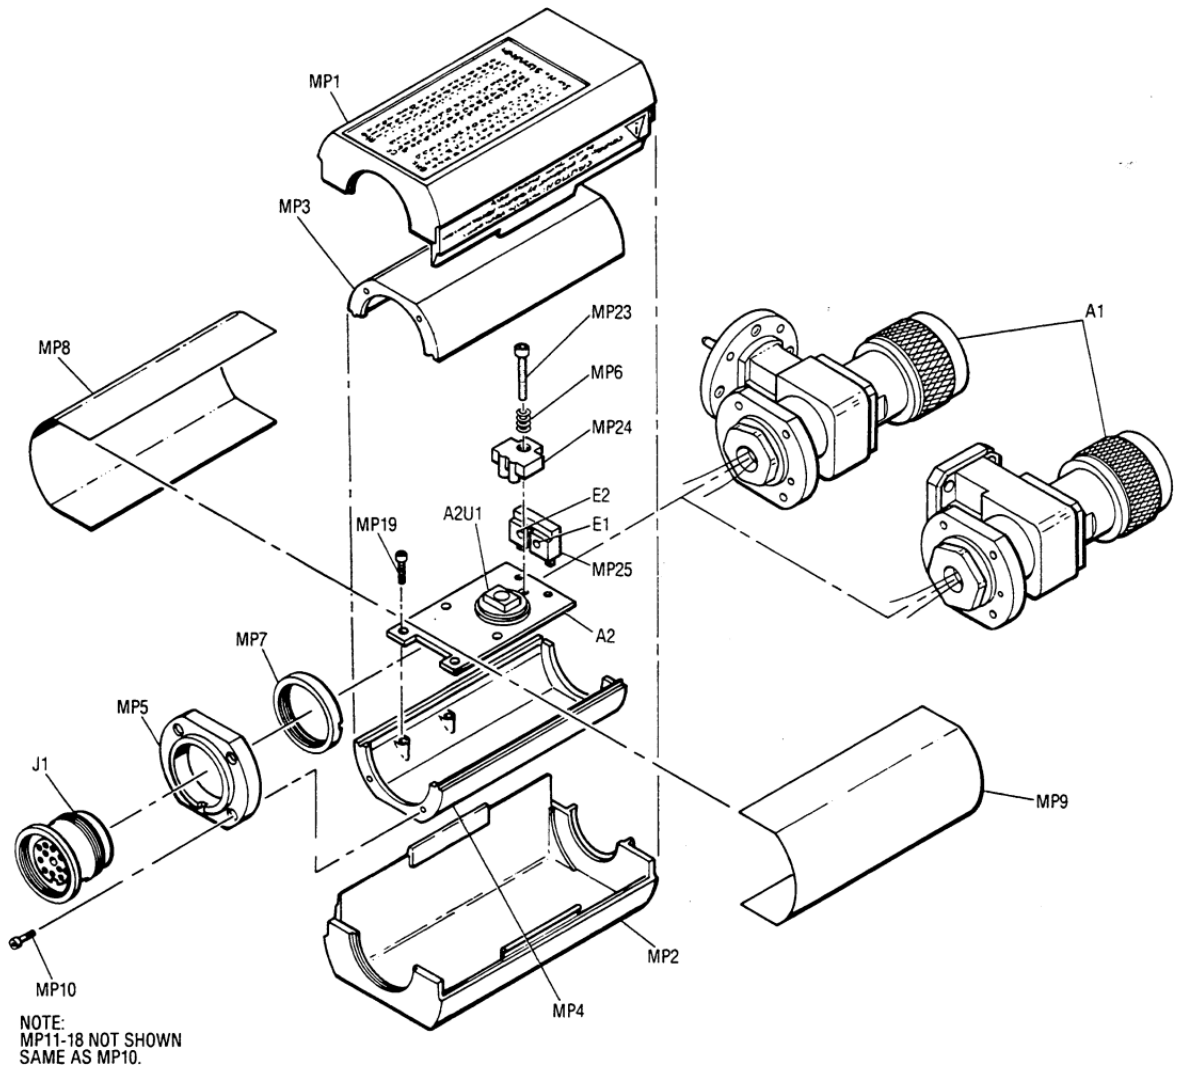
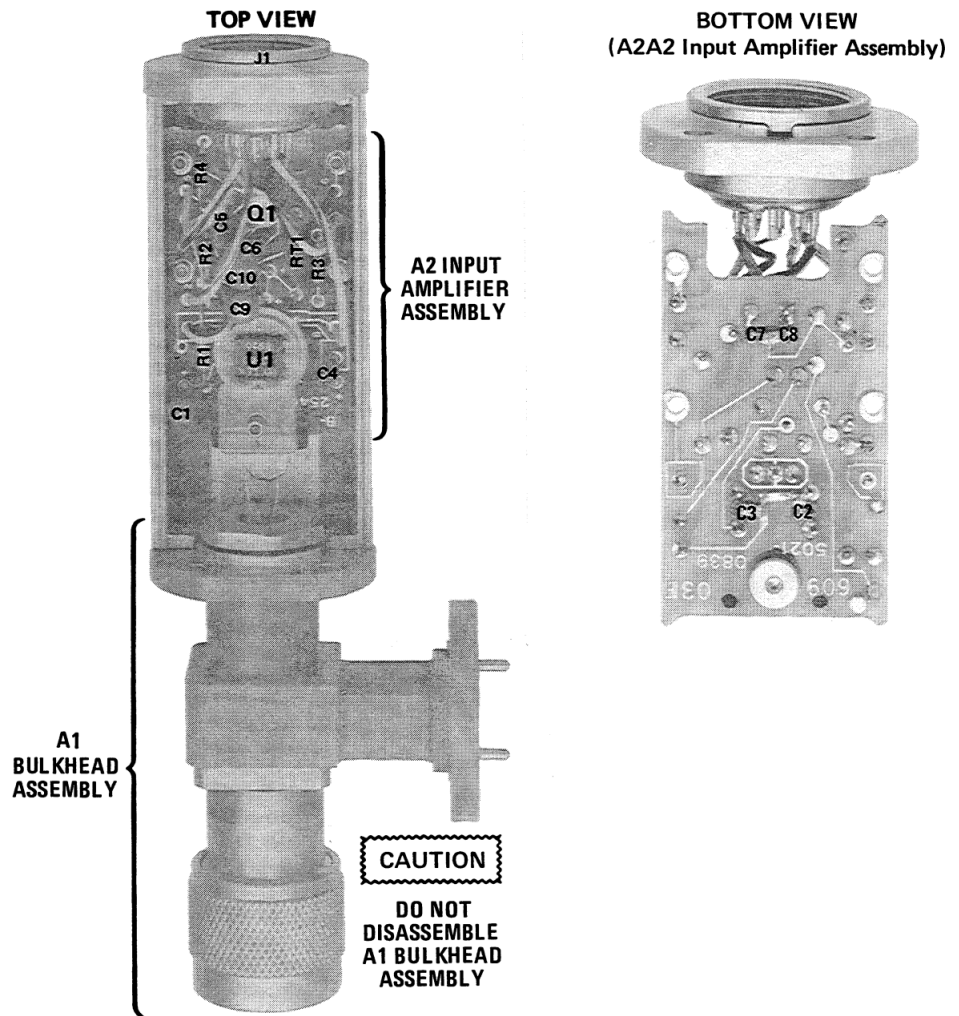

Figure 4-3 Illustrated Parts Breakdown
Figure 4-4 Component and Assembly Locations
Table 4-6 is a list of replaceable parts. Figure 4-3 is the illustrated parts breakdown (IPB) that identifies the major assemblies and chassis parts. The mounting locations of the components on the A2 Input Amplifier Assembly are shown in Figure 4-4. To order a part, quote the Agilent part no and Check Digit (CD), specify the quantity required, and address the order to the nearest Agilent Technologies office (see NOTE below). To order a part not listed in Table 4-5, give the instrument model number, instrument serial number, the description and function of the part, and the quantity of parts required.
Capacitors A2C2, A2C3, A2C7, and A2C8 (Figure 4-3) require low-temperature soldering techniques. The connection to these capacitors is a gold film deposited on a ceramic base. Molten solder causes the gold to form an amalgam with the solder so the gold dislodges from its ceramic base. Soldering must be done quickly using a low-temperature soldering iron and solder. The capacitors must be discarded if unsoldered. If integrated circuit A2U1 or transistor A2Q1 is replaced, two of these capacitors must be removed, and therefore must be replaced with new ones. The required low-temperature soldering iron and solder are as follows: